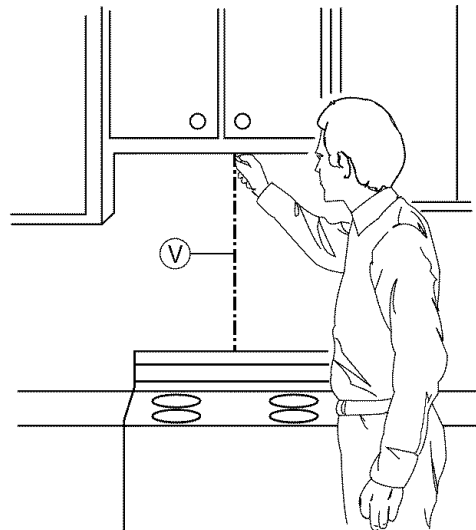

Figure 22
1. Using a plumb line and (metal) measuring tape, find and mark the vertical center line (V) on the back wall, as in **Figure 22**.